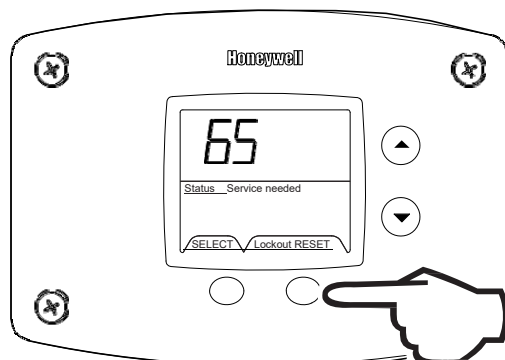

Fig. 73
2. Press for 3 seconds to reset control in service mode (Fig. 73).